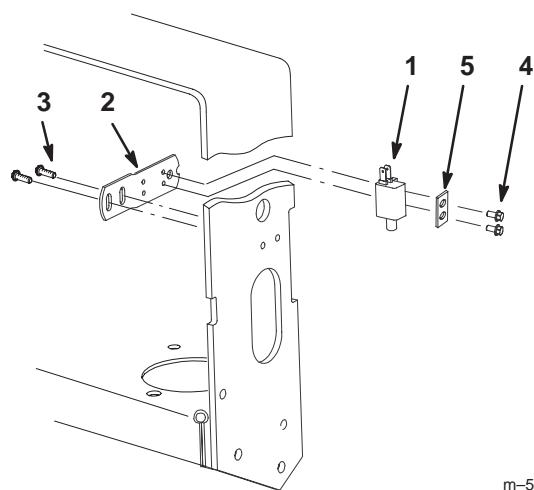

Figure 6
1. Install the neutral switches to the mounting brackets. Use 4 tapping screws (10-24 x 1/2 in.) (Fig. 6).
2. Install the mounting brackets and the switches to the inside of the machine frame using 4 bolts (1/4 x 1/2 inch) (Fig. 6).